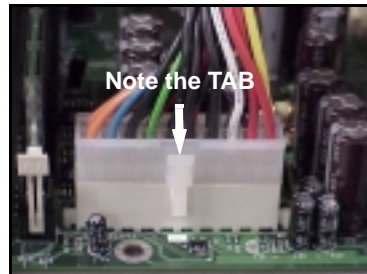

Figure 2.4b*
The clip on the power connector should lock over the tab on the onboard connector. You shouldn't be able to plug the power connector in any other way but just to be safe, make sure it looks like **Figure 2.4b**. Make certain that you do not miss connecting any of the pins because if you do, you will void your warranty and possibly cause damage to yourself and/or your motherboard when the power is turned on. After connecting the power, make sure the connector is seated firmly into its socket so it will not become loose or fall off when the computer is jostled or moved.
Step 2 Shown on the right, in **Figure 2.4b**, is the 20-pin connector plugged into the board*.